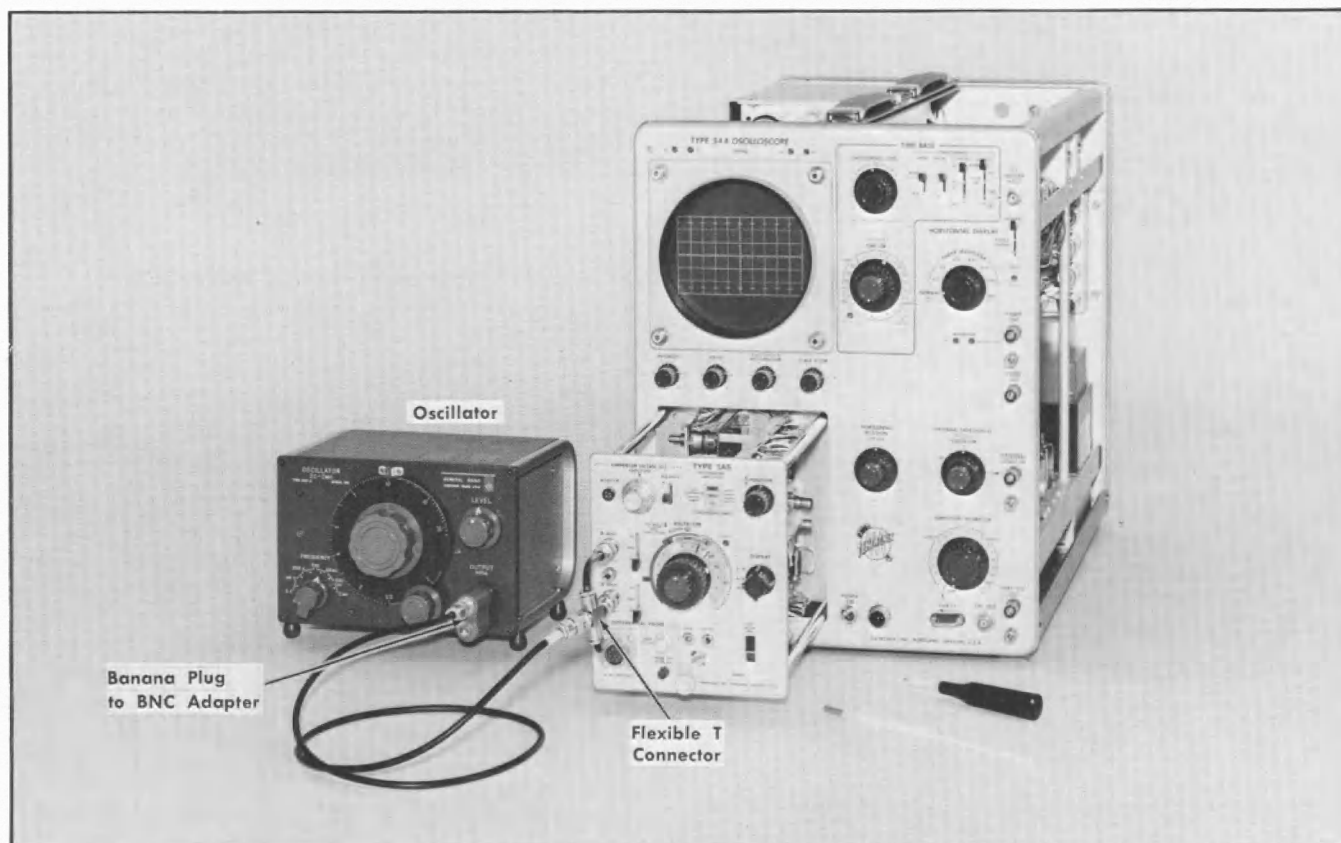
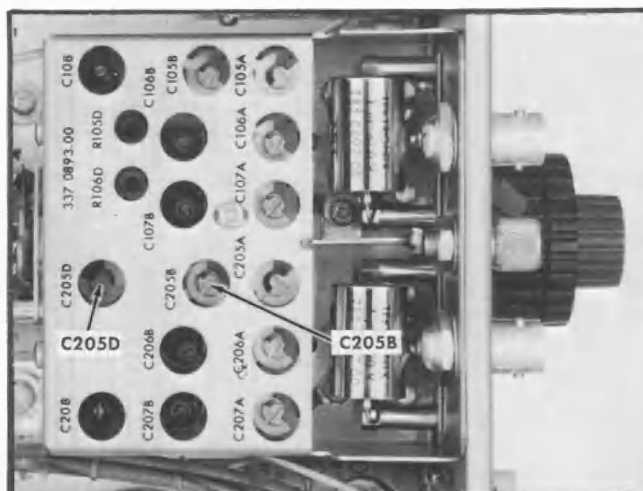

Fig. 6-20. Equipment setup for steps 17 through 19.
Fig. 6-21. Adjustment locations for step 17.
17. Adjust X10 and X100 DC- Coupled Common-Mode Rejection at 10 kHz. ①
a. Equipment setup is shown in Fig. 6-20. Adjustment location is indicated in Fig. 6-21.
b. Connect symmetrical ends of a flexible T connector to the A and B INPUT connectors. Connect the output of the General Radio Type 1310-A Oscillator (item 6) to the flexible T connector, using a banana-to-BNC adapter (item 23) and a coaxial cable.
- h. ADJUST—C205D (Fig. 6-21) for minimum vertical display amplitude. (1 cm or less for 2000:1 CMRR. Ratios of 5000:1 or more are not uncommon.)
- n. ADJUST—C206B (Fig. 6-21) for vertical display amplitude equal to or less than that recorded in step k. (CMRR 2000:1 or greater. Ratios of 5000:1 or more are not uncommon.)
- a. Equipment setup is shown in Fig. 6-20.